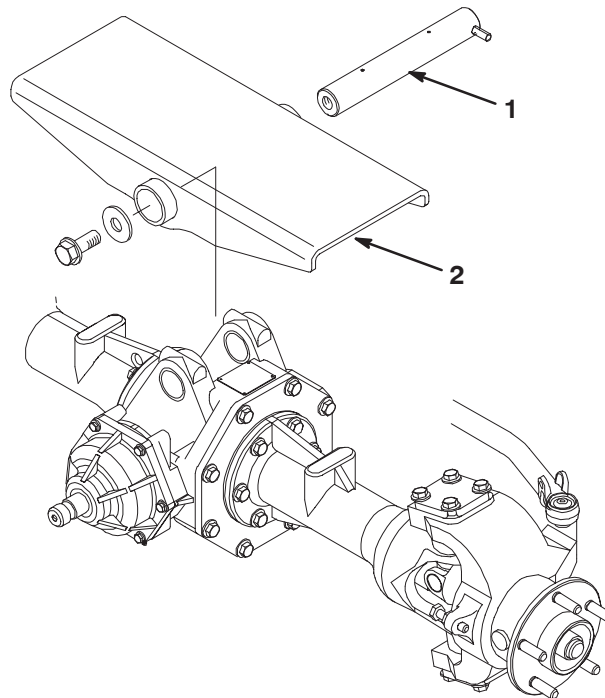

Figure 1
7. Remove the bolt and washer from the end of the axle pivot pin (Fig. 1).
8. Pull the axle pivot pin out. This will release the rear axle from the axle pivot and allow it to be lowered to the floor (Fig. 1).